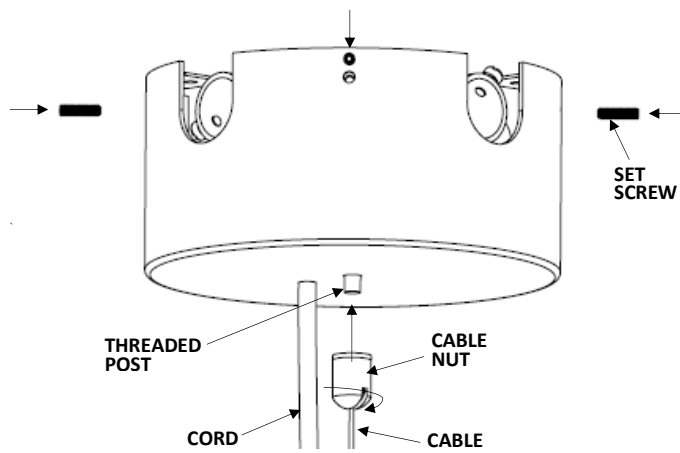

Fig. 5
**5. INSTALL CANOPY TO BRACKET. Fig.5**